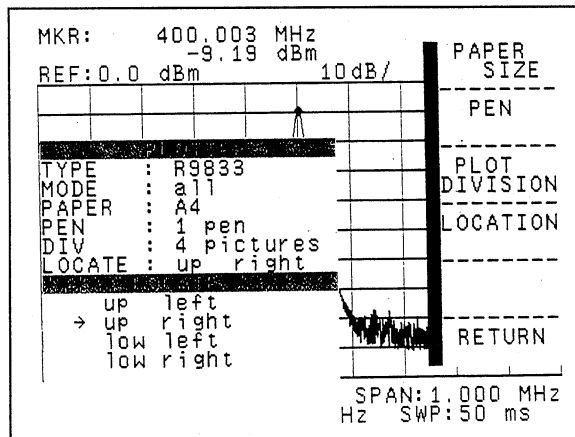

Figure 5-14 Output location selection
- When the Display division Selection is set four pictures were chosen in ⑨. Select the output location from four positions of upper left, lower left, upper right and lower right (See Figure 5-14).
⑩ Output location AUTO/MANUAL selection